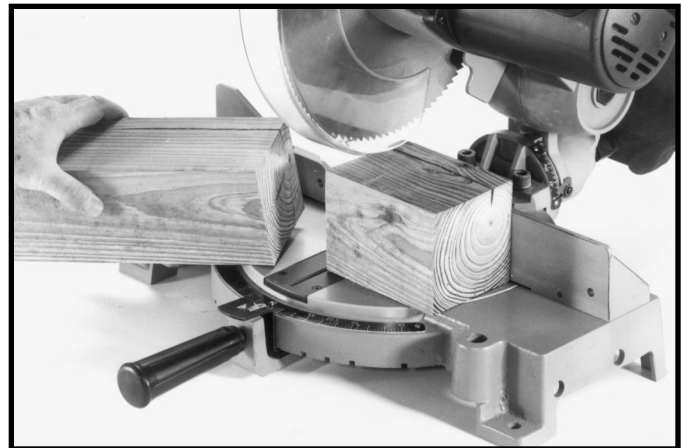

Fig. 36
11. Fig. 36, illustrates the fence in the forward position enabling you to cross-cut a standard 4 x 4 in one pass.